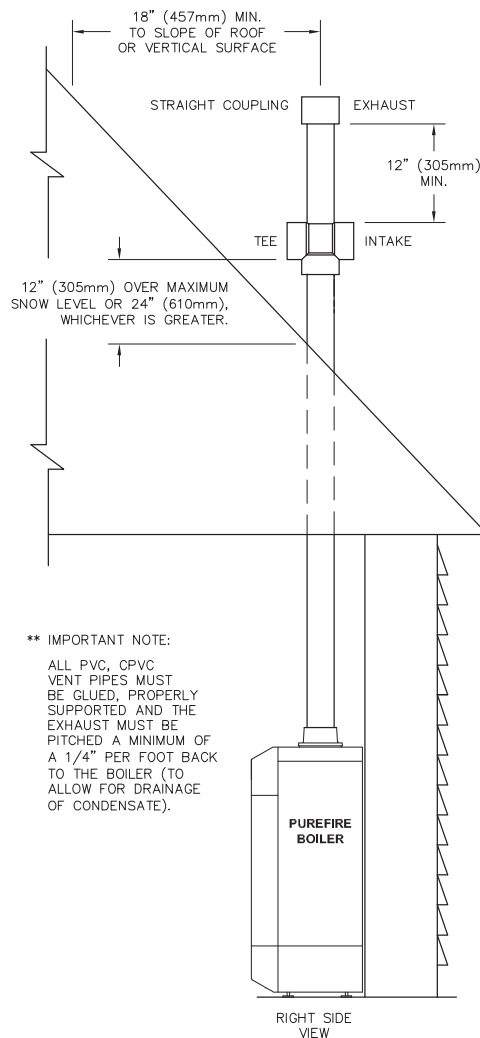

Figure 3.8: Standard Vertical Vent Installation
- Figure 3.8 shows the approved venting configuration for vertical venting using the standard fittings supplied.